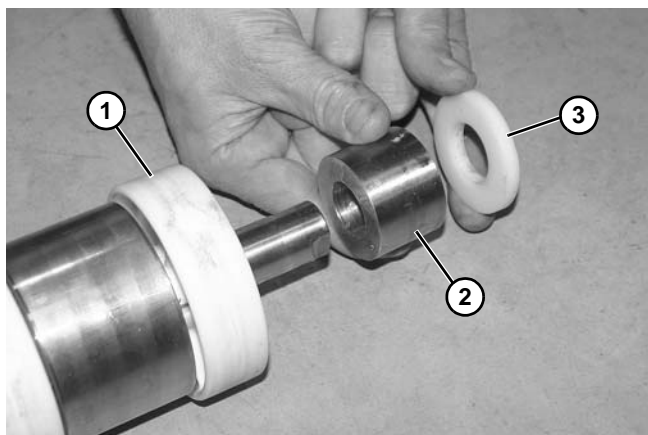

Figure 99
2. Install idler puck (Figure 99, item 1) onto the end of take-up assembly.
3. Install spacer (Figure 99, item 2) and bushing (Figure 99, item 3) onto the end of take-up assembly.